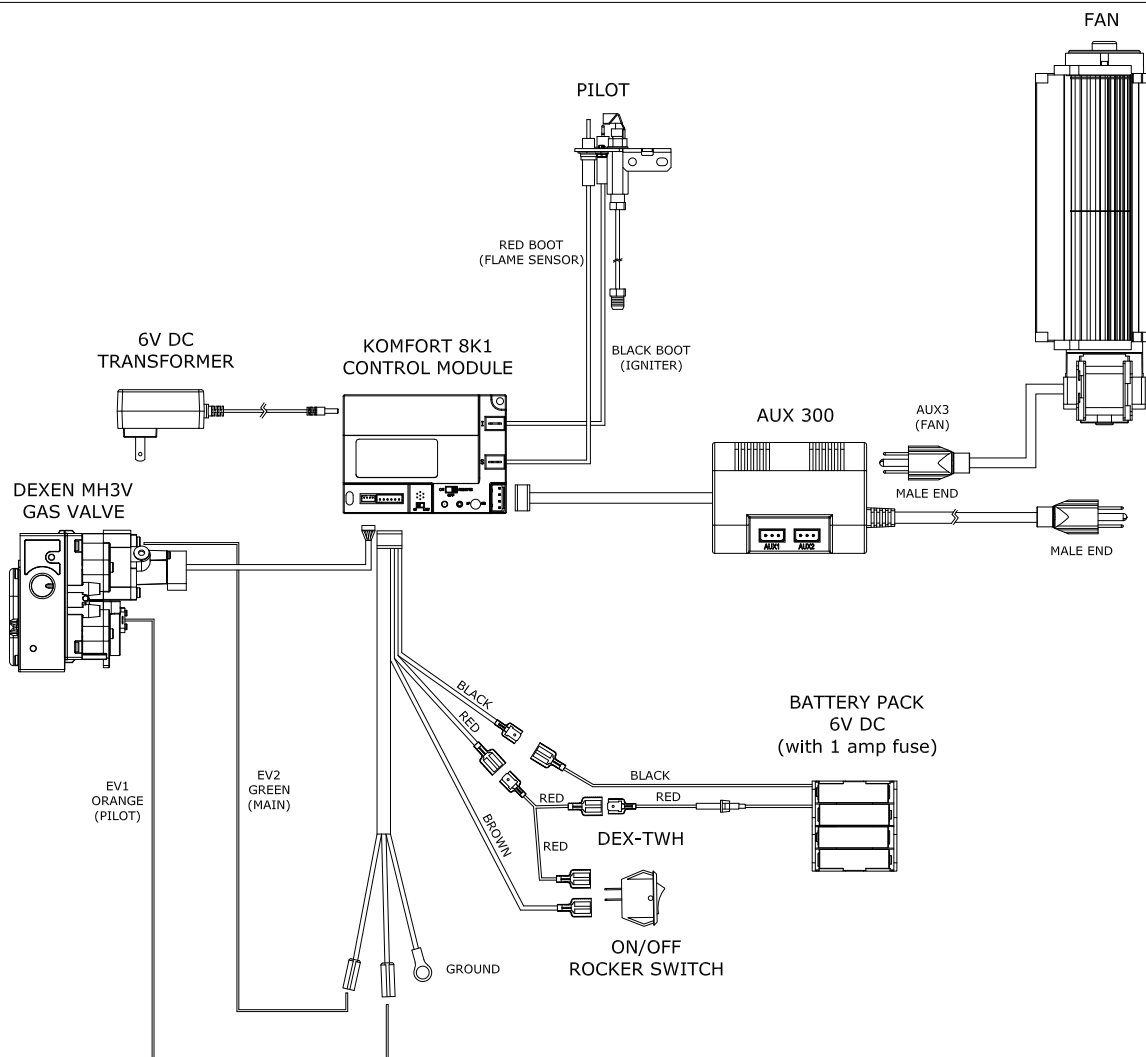

Figure 8.3, OAK18-L Wiring Schematics
- It is optional to disable the main ON/OFF rocker switch operating the main burner by disconnecting the wires from the control module (Figure 8.3).
3. Install (3) AAA batteries (included in the components packet) in the remote control battery bay.
5. Connect the fan to the AUX 300 control module (FIGURE 8.3, page 28).